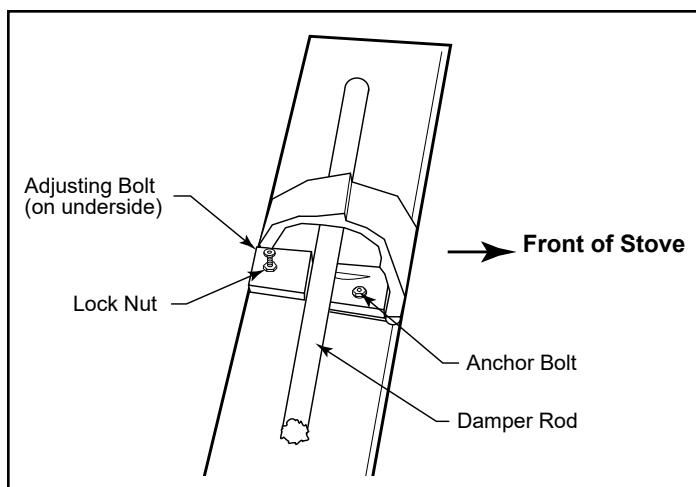

Figure 37 - Damper adjustment.
1. From inside the stove, first loosen and then remove the two (2) nuts on the threaded rods that secure the top plate to the inner top of the stove.
3. Loosen the adjusting bolt's lock nut. (Figure 37)